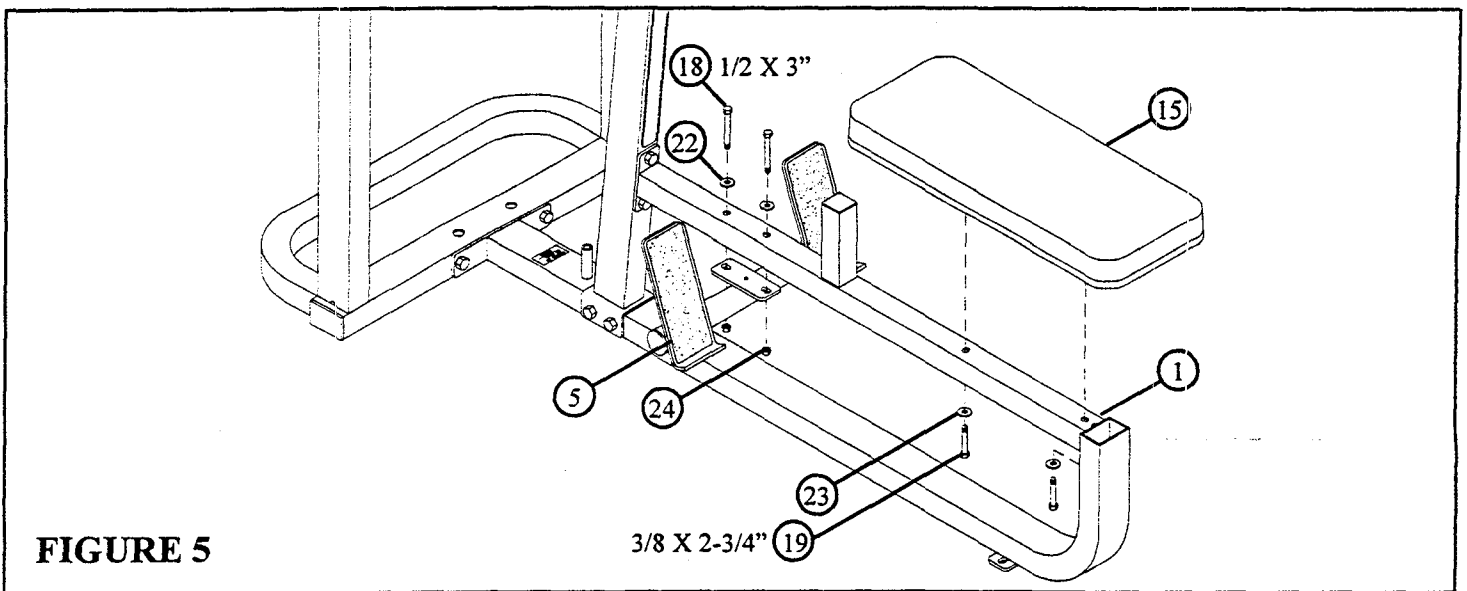

**FIGURE 4**
- A. Loosely attach TOP BOOM (2) to TOWER (6) and UPRIGHT (4) using four 1/2 X 4" BOLTS (17), four 1/2" WASHERS (22), and three 1/2" LOCK NUTS (24) as shown in FIGURE 4.